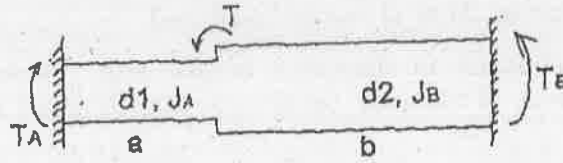

Fig. Q.13(b)(i)
- (b) (i) A stepped solid circular shaft is built in at its ends and subject to an externally applied torque  $T$  at the shoulder as shown in fig. Q.13(b)(i). Determine the angle of rotation  $\theta$  of the shoulder section when  $T$  is applied. (7)